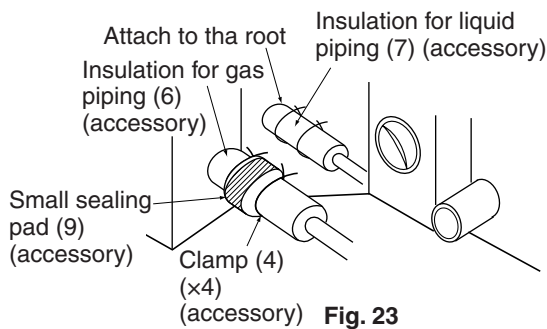

Fig. 23
- Make absolutely sure to execute heat insulation works on the pipe-connecting section after checking gas leakage by thoroughly studying the following figure and using the attached insulation for fitting (6) and (7). (Fasten both ends with the clamps (4).) **(Refer to Fig. 23)**
- Wrap the sealing pad (9) only around the insulation for the joints on the gas piping side.